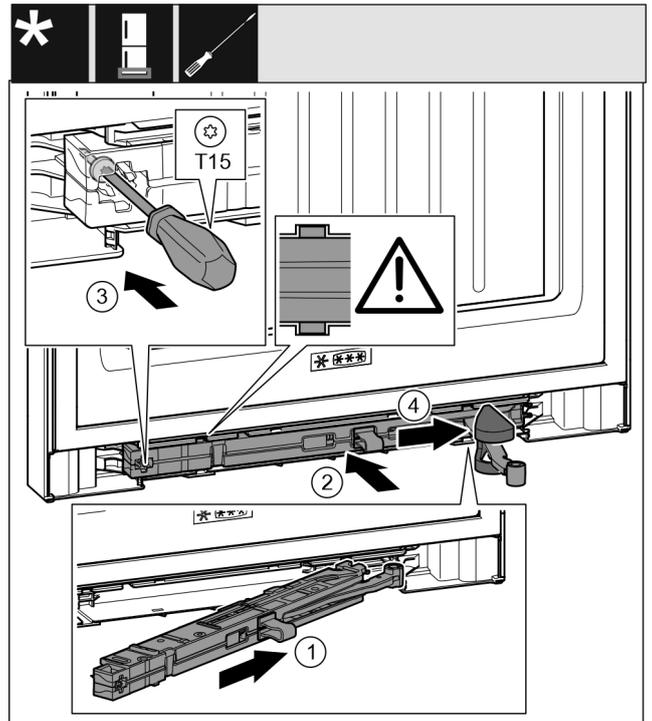

Fig. 68
- ▶ On the swap bearing block side, slide the closing damper unit Fig. 68 (1) into the recess at an angle up to the stop.
- ▶ Push the closing damper unit Fig. 68 (2) into the recess completely.
- ▶ Use a screwdriver to tighten the screw Fig. 68 (3).
- ▶ Push the cover Fig. 68 (4) over the joint.